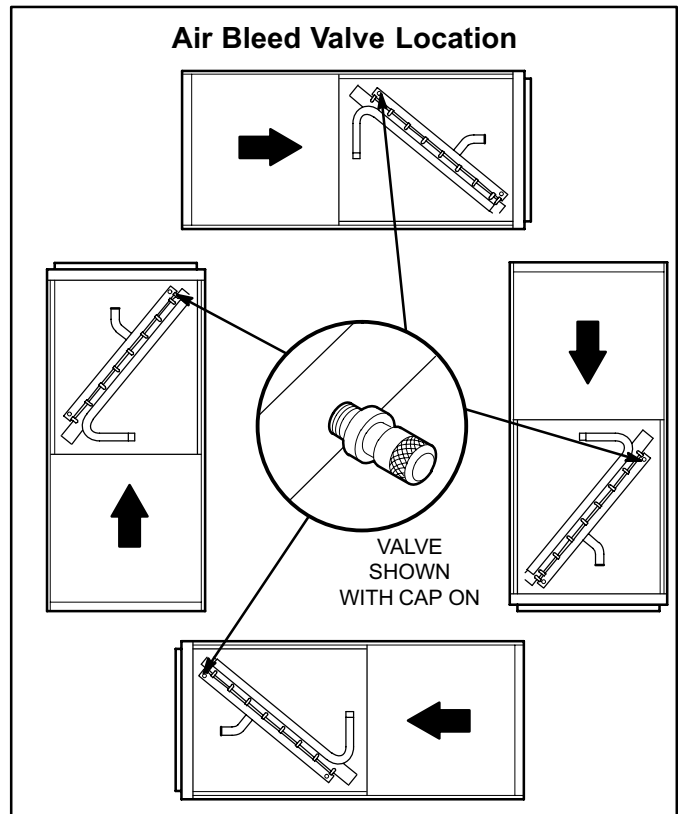

Figure 15
3. Remove cap from highest air bleed valve and depress valve stem until water is released. This may be done with a refrigerant style hose. See figure 15.